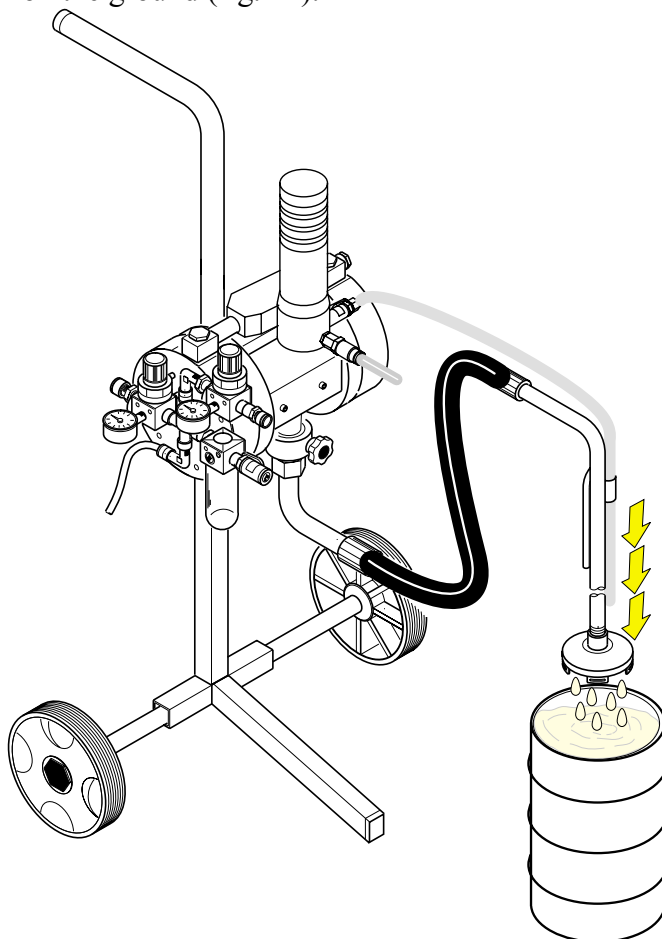

Fig.42
- 1) Lift the suction pipe and the recycle pipe from the container, making sure that the product does not fall on the ground (fig. 42).